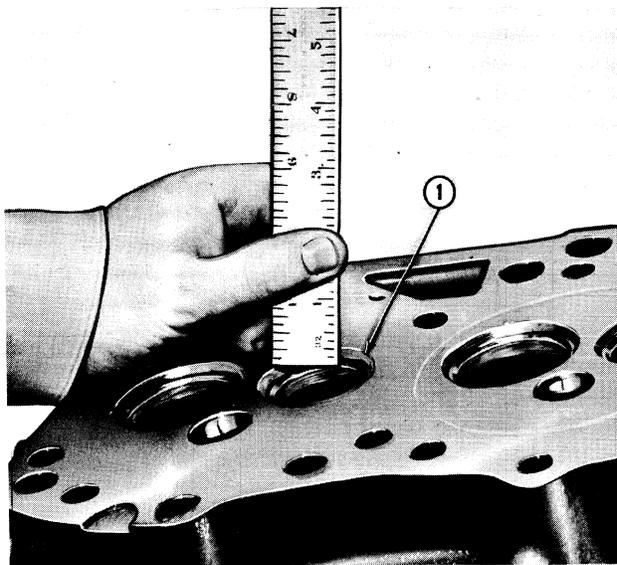
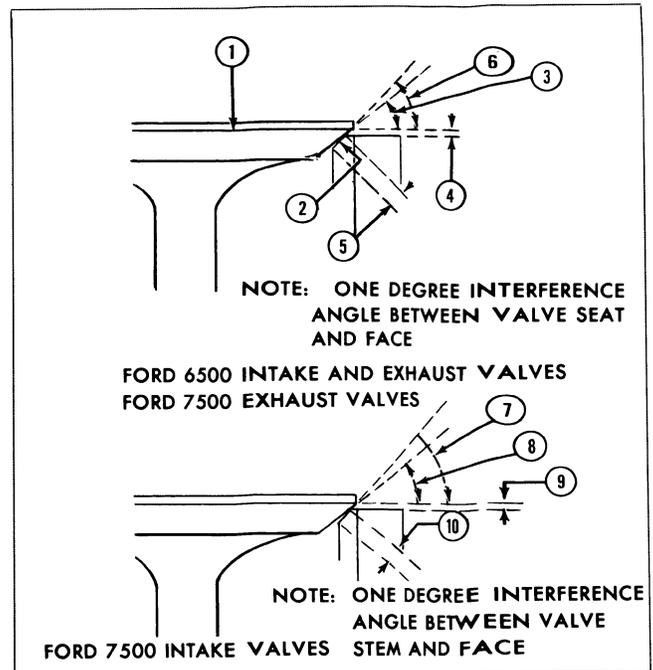

Figure 9
Figure 11
6. Measure the width of the valve seats, Figure 9, and reface the seats if they do not meet the specifications shown in Figures 11 and 12.
NOTE: Refacing the valve seat should be coordinated with refacing the valve face so the finished measurements will correspond to Figure 11.
The valve refacing operation should be closely coordinated with the valve seat refacing operation so the finished angle of the valve face is 1° less than the valve seat to provide an interference angle for better seating. Adjust the refacing tool to obtain a valve face angle of 44° or 29° as applicable. See Figure 11.